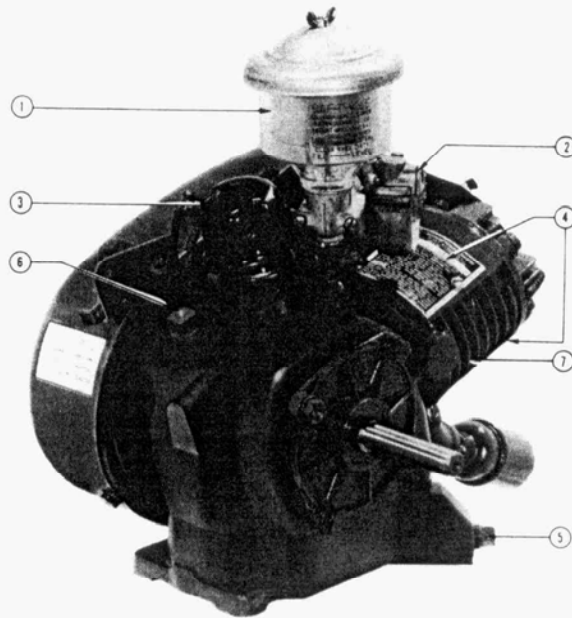

Figure 1 - Drive End View of Power Unit
The oil level should be checked every 5 operating hours. The oil should be drained and refilled with new, fresh oil after every 25 hours of operation. On the engine base there is a plug (Item 5, Fig. 1) for draining the oil. Oil may be added by removing the oil gauge rod (Item 6, Fig. 1) and filling until the oil reaches the full mark on the rod. When replenishing, or refilling the oil through opening provided, care should be exercised against over-filling. Over oiling and spark plug fouling can result from this. The refill capacity is approximately ONE PINT.
- 2- Fill the crankcase (making certain that all containers are clean when used) with one (1) pint of a good grade of oil. (See above chart for correct grades of oil.) When oil is poured into the oil filler opening (Item 6, Fig. 1) be sure that the proper level is obtained in the crankcase. The correct amount of oil is very important in the operation of the engine. Check every 5 hours.
The baffles (Item 4, Fig. 1) can be loosened to facilitate cleaning by releasing spring between the parts.